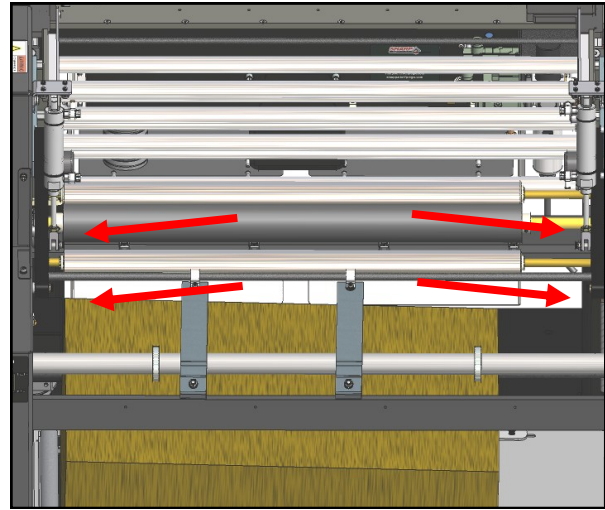

Figure 4-6B. Unwind Pinch Roller Flow Controls.
2. Move the Toggle Switch from OPEN to CLOSE while adjusting the Flow Controls on Pinch Roller Cylinders until desired speed is achieved. Figure 4-6B.